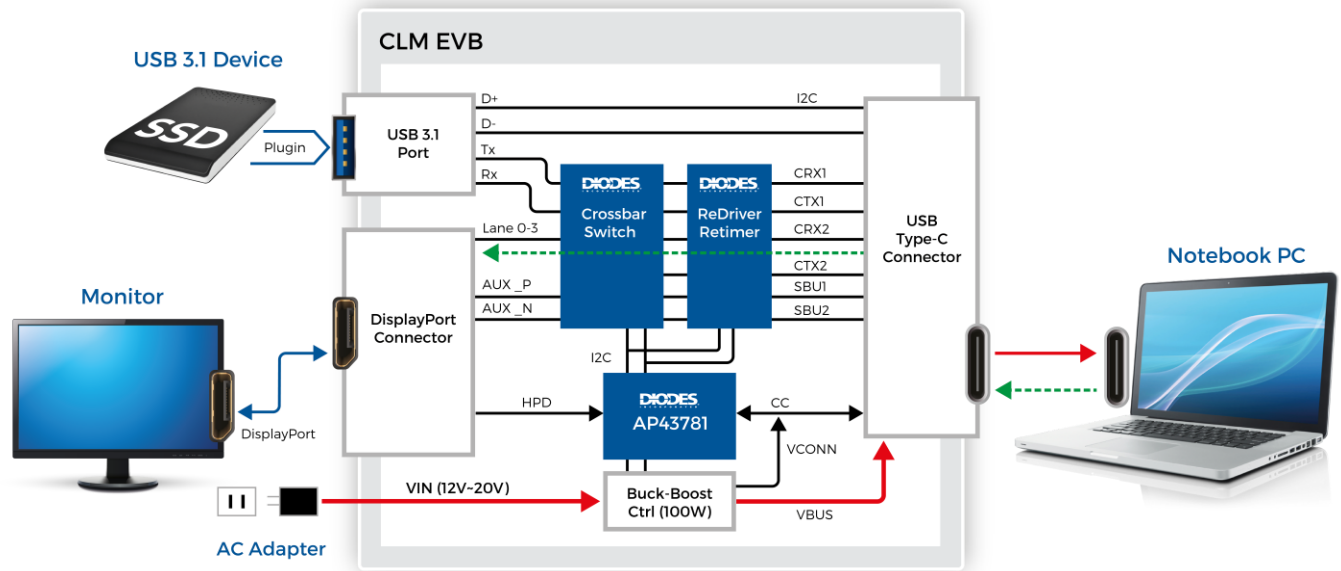

Figure 4. An AP43781-based EVB for USB-C PD DFP Charging and UFP Video Data Streaming
To expedite a USB-C port connected Device (TCD) to display its video signal to a DisplayPort™ (DP) monitor through USB-C interface, a USB-C-Link-to-DP-Monitor Evaluation Board (CLM EVB) is designed, where its functions include the USB-C Power Delivery (PD) charging, DP Alternate (Alt) mode, and USB 3.1 data streaming. The key functions of the CLM EVB are shown in Figure 4, where the CLM EVB can support PD 3.1 compliant TCDs such as notebook PC, Smartphone, Desktop PC, and other mobile or non-mobile devices.
The CLM EVB, Figure 4, is designed to implement the USB-C PD Interface for USB-C PD monitor.
The CLM EVB is designed to input a DC power of range 12V~20V, which is supplied by an AC-to-DC power conversion module board inside the Monitor with AC Power input from the AC wall outlet, as illustrated in Figure 4. This application operates in the following modes:
I2C interface, so that the data stream can be delivered from the host side to the DP in the right routing path and in the correct signaling, as the green color line illustrated in Figure 4.